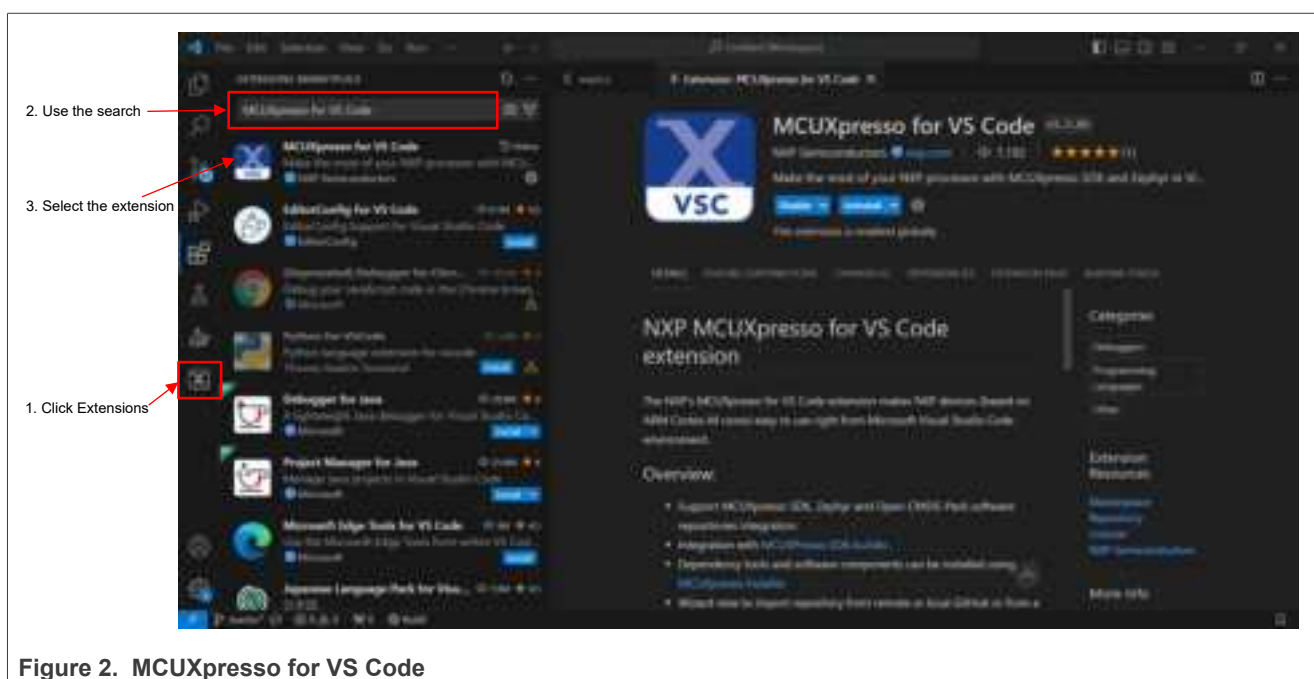

Figure 2. MCUXpresso for VS Code
- Search for *MCUXpresso for VS Code* and click **Install** (Figure 2)